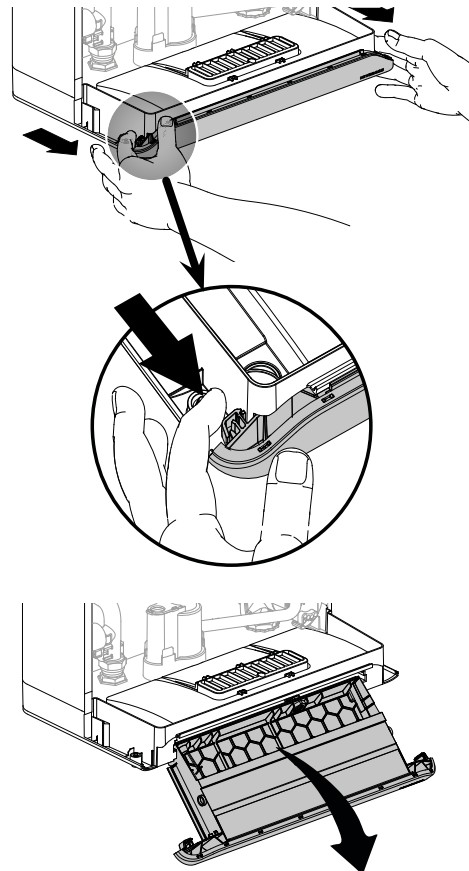

Figure 37: Pulling out the tray
1. Pull out the controller as shown in Figure 37.